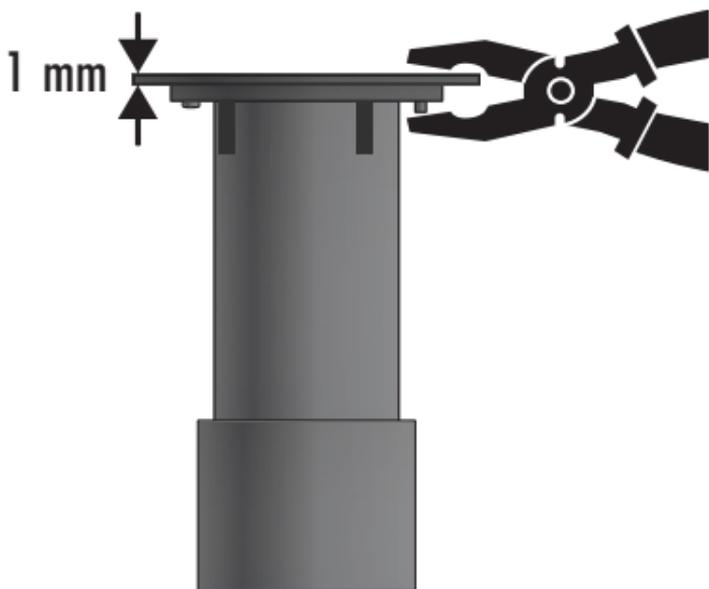

Fig. 5: Pressing the body of the Branch-off junction and the covering together
7. Using flat nose pliers press the noses so that covering and body will be firmly joined (see Fig. 5). The join is also possible by heating the noses with a hot screw driver or through careful bonding with an instant adhesive gel. Do not use under any circumstances any liquid instant adhesive as the creeping capability of such adhesive might also glue together some parts inside the body of the Branch-off junction, which would make the Branch-off junction unusable.